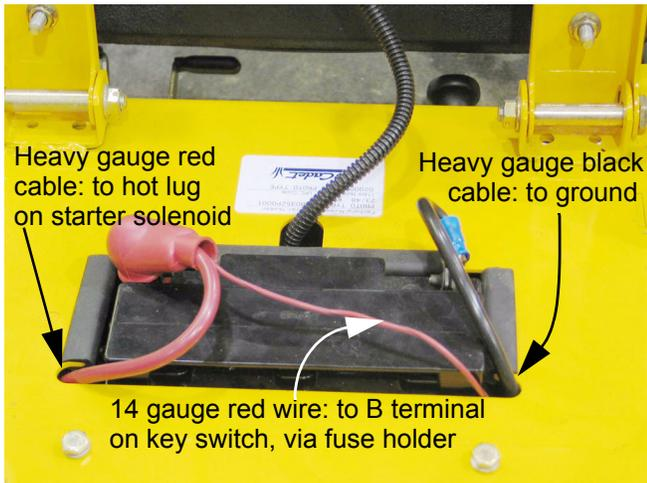

Figure 28.23
28.23. **Battery:** The battery is type 12CE18, which fits tightly in a cavity beneath the seat. See Figure 28.23.